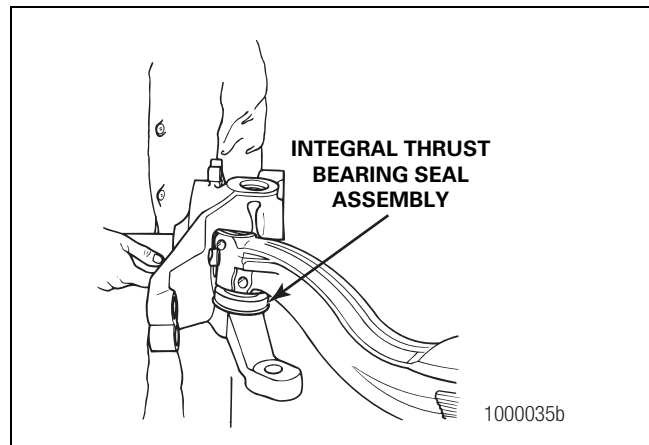

Figure 4.25
10. Remove the knuckle from the axle beam. Figure 4.25. Inspect the parts. Refer to Section 5 for parts inspection and replacement information.